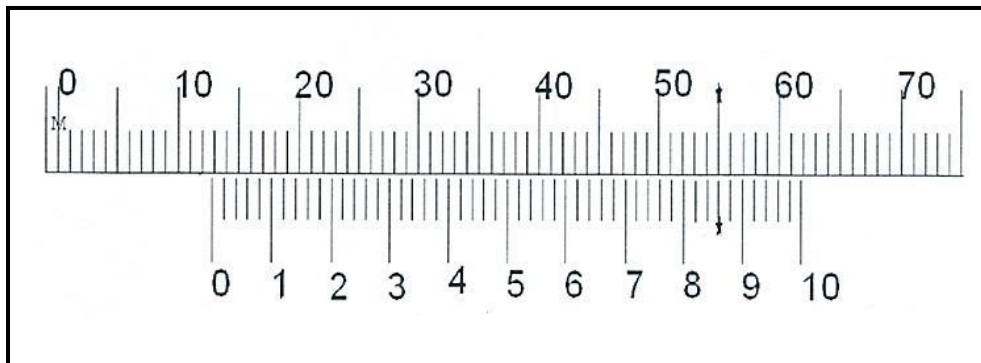

FIGURE 7.2
7.2 FIGURE 7.2 below shows a vernier calliper reading.